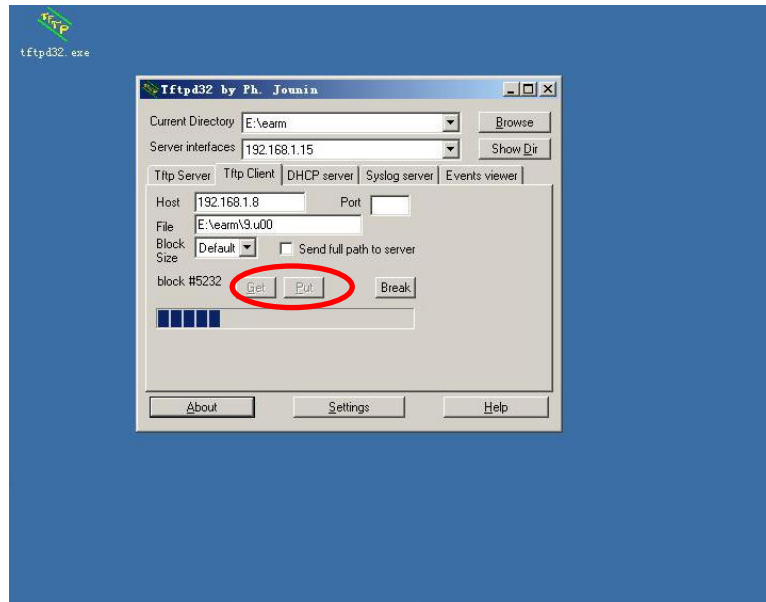

Figure 2.3
2.3 After this, click on "Put". This will send the file to the DSC controller internal memory. Note: At this time, the ARM controller will show the file is transferring. See Figure 2.3.